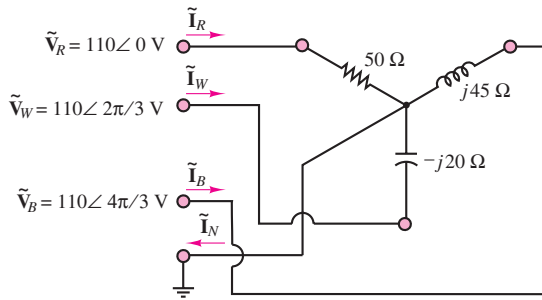

Figure P7.48
**7.48** For the three-phase circuit shown in Figure P7.48, find the current in the neutral wire and the real power.